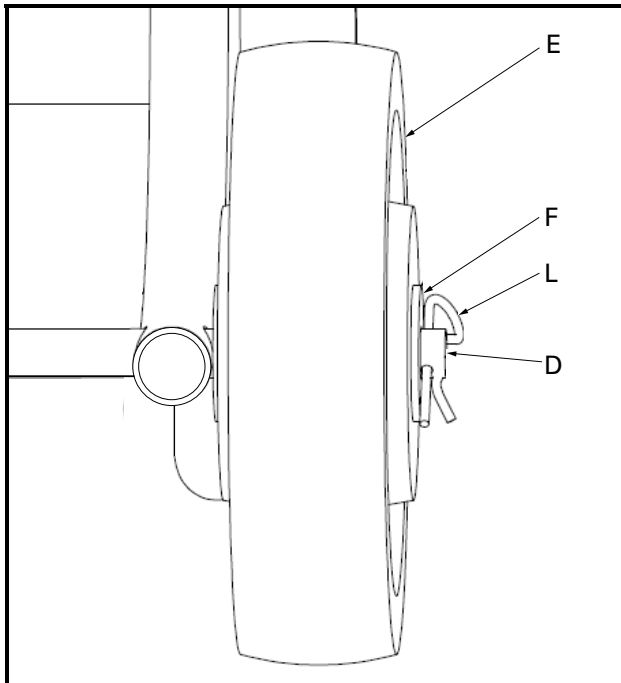

FIGURE 8. Wheel Assembly.
- Insert the hairpin cotter pins (L) through the small hole on each end of the axle (D) to secure the wheels. Refer to Fig. 8.